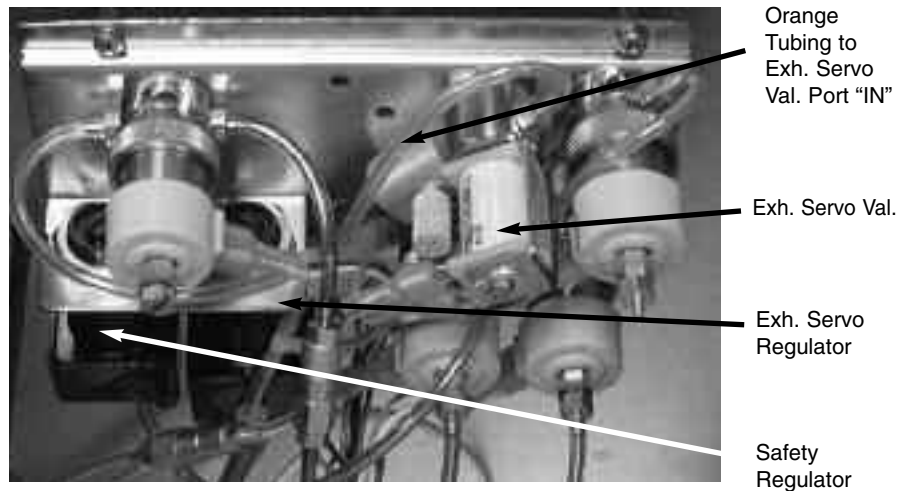

Figure 5-4 Exhalation Servo / Safety Regulators
- 1 Take the **ORANGE** tubing from the Exhalation Servo Valve port “IN” and connect to a high pressure gauge, see Figure 5-4.
- 5 Use a flat head screw driver to adjust the Safety Regulator, see Figure 5-4, to obtain 140 ± 5 cm²HO of “**Machine 1**” pressure displayed on LCD touch screen.